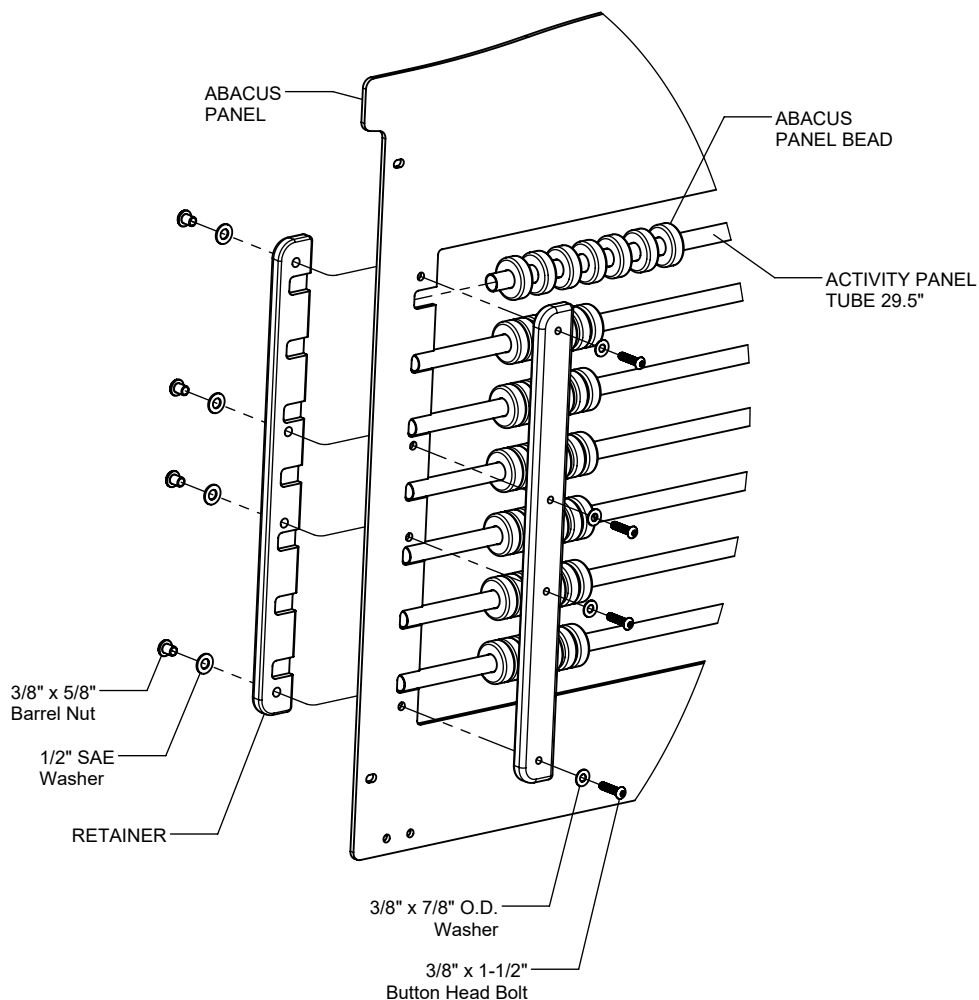

FIGURE 5
Place (7) Abacus Panel Beads onto each Activity Panel Tube 29.5" and attach to Abacus Panel as shown in Figure 5. (See Note A)